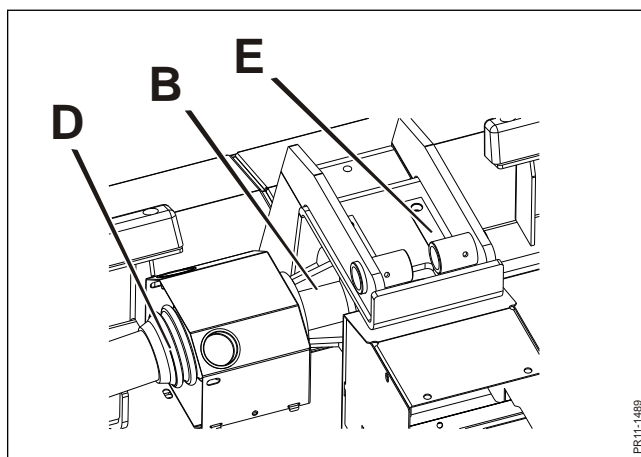

Fig. 2-2
**Fig. 2-2** In order to turn the central gear **B**, the PTO drive shaft **D** is dismounted, the PTO guards on the gear and the 4 bolts **E** above the gear are screwed out. Then the gear can be turned 180 degrees, the 4 bolts can be mounted and tightened again (REMEMBER the lock fittings) and the PTO guards and the PTO drive shaft can be mounted again.